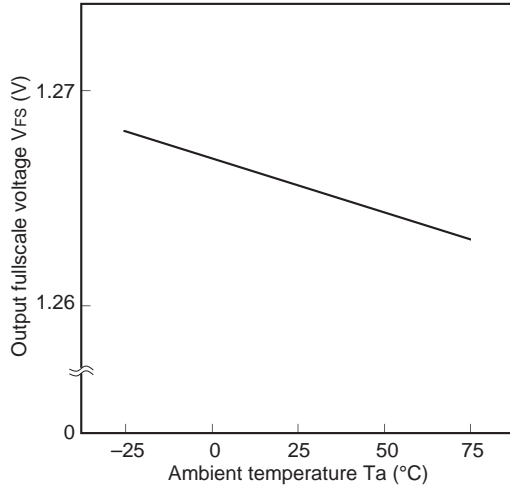

Fig. 3. Ambient temperature vs. Output full scale voltage
- Ta=25 °C (Except Fig. 3)
- Fig. 3 is input data=all 1